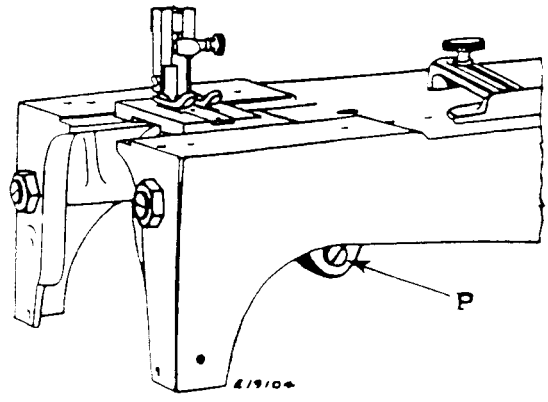

Fig. 18. Setting the Shuttle with Relation to the Needle
In such cases, adjustment is made by loosening the clamping screw (P, Fig. 18) beneath the machine bed, and moving the shuttle race slightly to right or left to suit the needle being used. After which securely tighten the clamping screw (P).